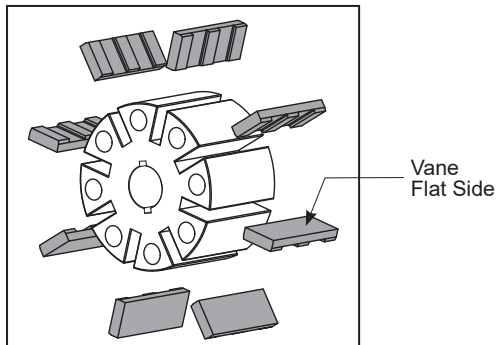

Figure 2a
8. Replace the rotor, shaft key, and vanes, making sure the vanes are oriented with flat side facing forward (as shown in Figure 2a).
6. Reinstall rotor, key, and vanes. (Figure 2A)